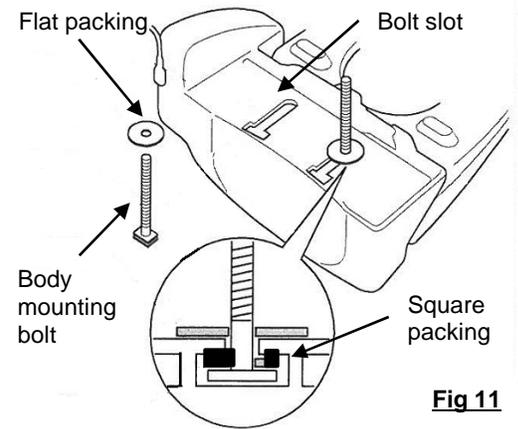

Fig 11
- (IV) After both bolts are inserted into the slots, turn the unit and install it onto the toilet bowl. (Fig 11)
- (V) Adjust the position of the product so that the front end overhangs the front end of the toilet bowl by 0.2" to 0.7" (5 to 20 mm).